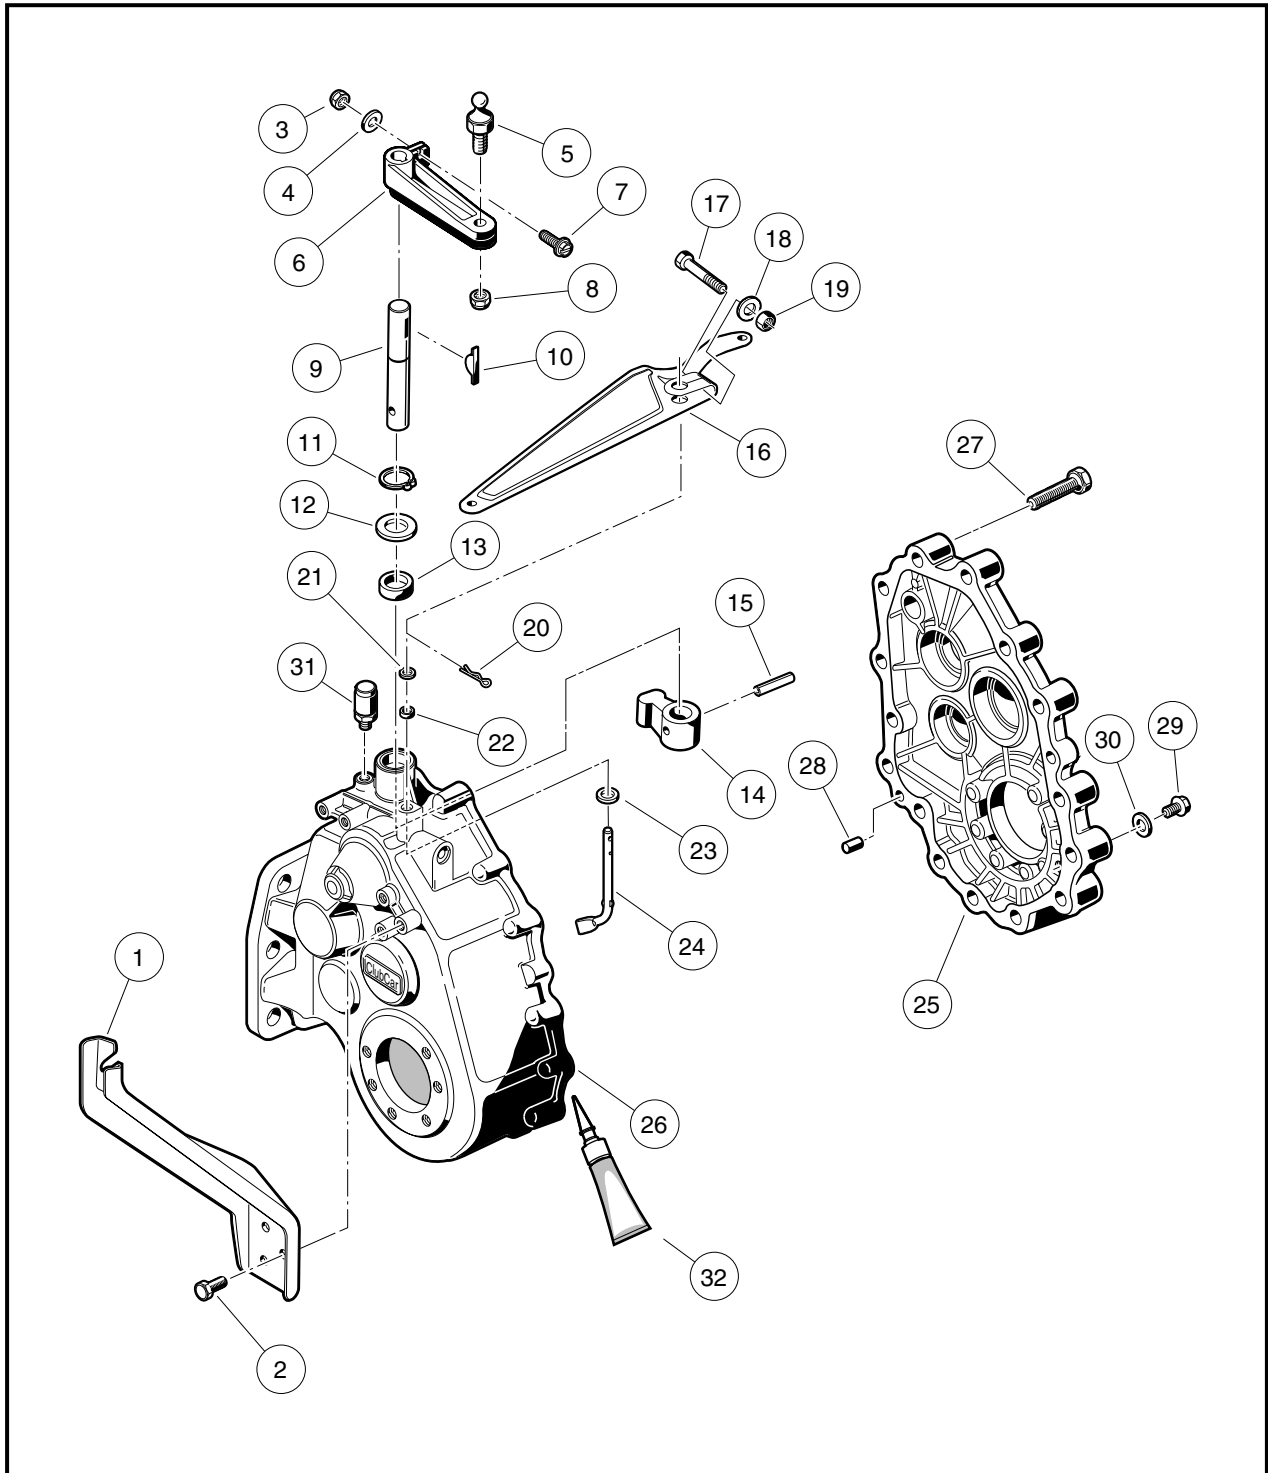
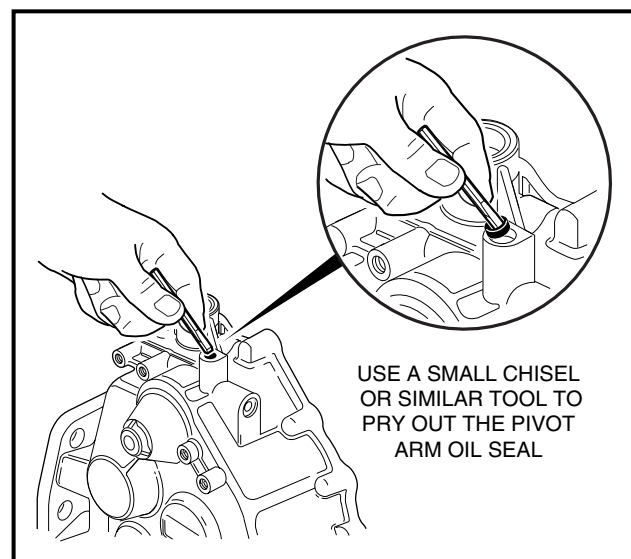

FIGURE 10-36
FIGURE 10-42
5. Using a 12 mm wrench or socket, remove the fifteen bolts (27) that hold the transaxle housing together (**Figure 10-36, Page 48**).
- 13.1. Use snap ring pliers to remove the shaft retaining ring (11) on the outside of the casing as shown (**Figure 10-36**).
- 13.2. Remove the flat washer (12) from the shaft on the outside of the casing as shown (**Figure 10-36**), then remove the shifter shaft by pushing it through the casing wall toward the interior of the transaxle.
- 13.3. Use a seal puller to remove the shifter shaft oil seal (13) from the casing (**Figure 10-36**).
14. Use a 14 mm open end wrench to remove the breather (31) from the casing (**Figure 10-36**).
- 15.1. Remove the cotter pin (20) and flat washer (21) from the pivot arm (**Figure 10-36**).
- 15.3. Use a small chisel or similar pointed instrument to pry the pivot arm oil seal (22) (**Figure 10-36, Page 48**) out of the casing (**See Figure 10-42**).